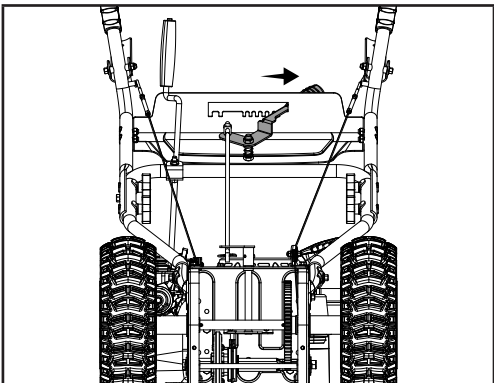
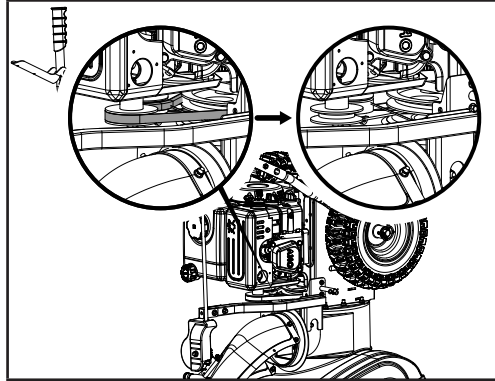

Figure 27A
Figure 27B
- Slide the speed adjusting handle to the right (Fig. 27A) and remove the loose belt by cutting it or any remaining belt pieces if the belt has already broken (Fig. 27B). If cutting the belt be careful of the tensioning pulley and arm as they are spring loaded and could cause injury when the belt is cut.